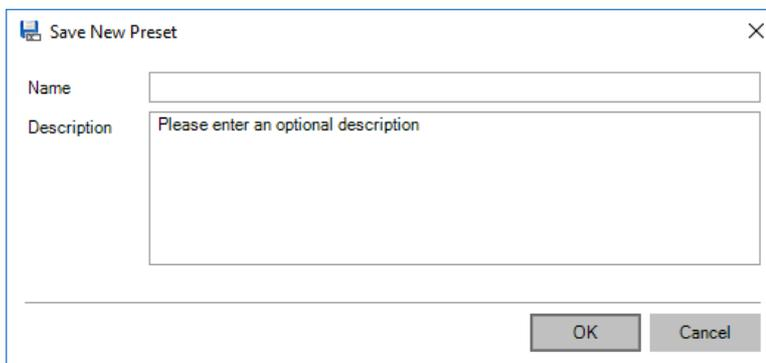

Figure 4-51. Save New Preset dialog in Qtegra
2. Above the results table, click **Save as** to save the preset as new preset. The **Save New Preset** dialog is displayed, see Figure 4-51.